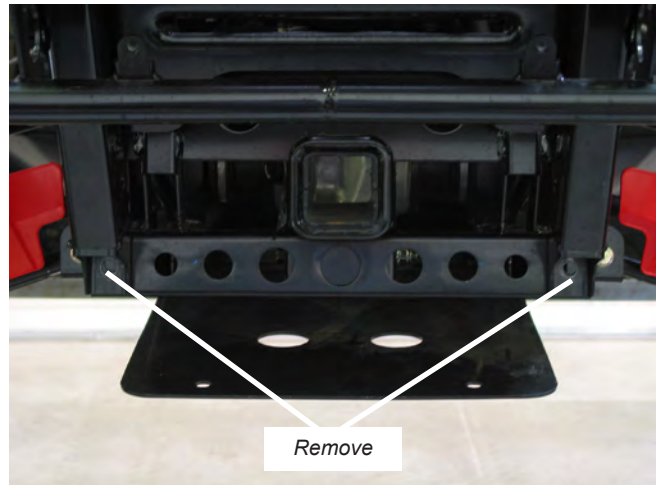

Figure 2
2. Remove the lower M12 bumper fasteners. Remove (2) skid plate screws. See figure 2.